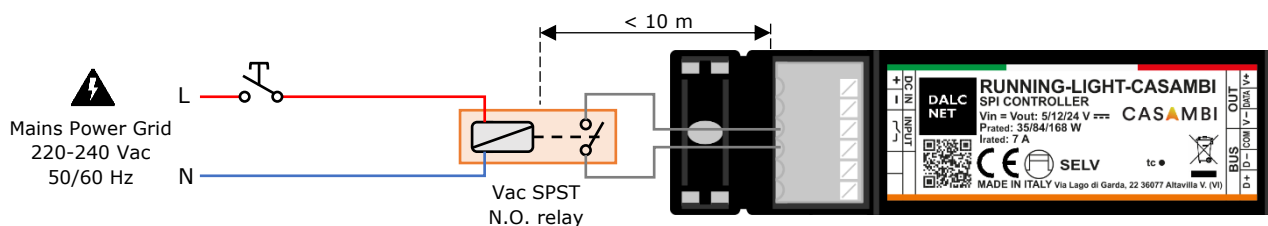

Figure 5: Local Command wiring diagram for Long Distances
**⚡** For longer distances ( $> 10$  m), it is recommended to use an N.O. dry contact relay module, connected between the "Input" terminal of the RUNNING-LIGHT-CASAMBI and the power source (e.g. mains voltage 230 Vac). Figure 5 shows an example of a Local Command wiring recommended for long distances.